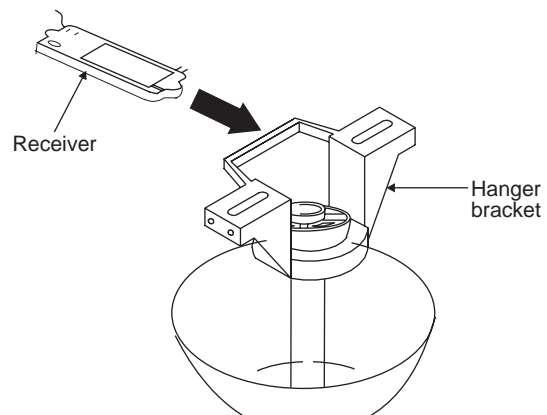

Figure 12
**Step 1.** (Fig. 12) Insert the receiver into the mounting bracket with the flat side of the receiver facing the ceiling.